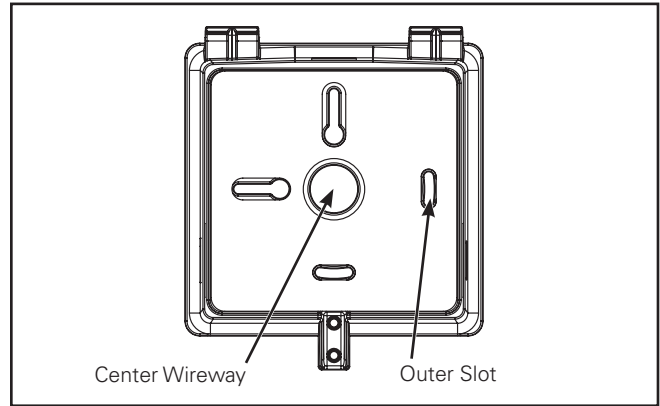

Figure 2.
3. Separate Crosstour housing door from the back box. Remove the indicated gasket punch outs on the back box. (Figure 2.)